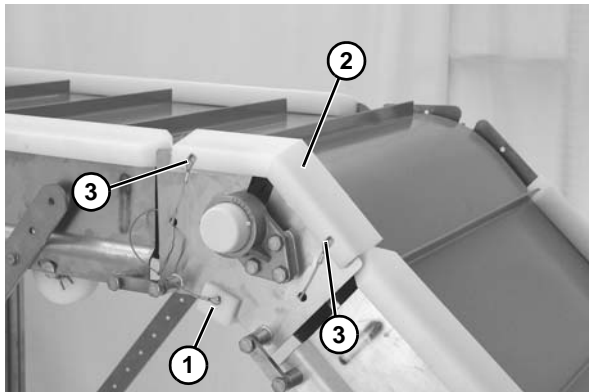
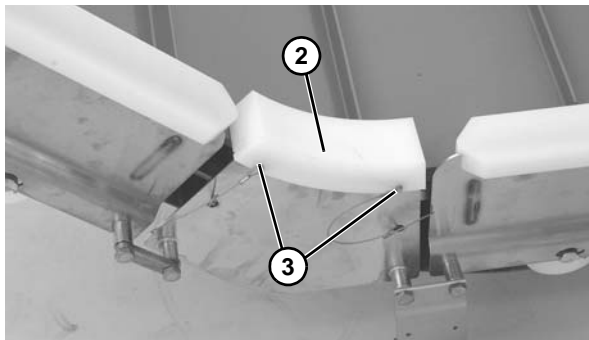

Figure 17 (Upper Knuckle)
Figure 18 (Lower Knuckle)
1. Install the return guide (**Figure 17, item 1**) and secure with push pin.
2. Slide the guides (**Figure 17, item 2**) and (**Figure 18, item 2**) onto the knuckle frame, and secure with two pull pins (**Figure 17, item 3**) and (**Figure 18, item 3**).